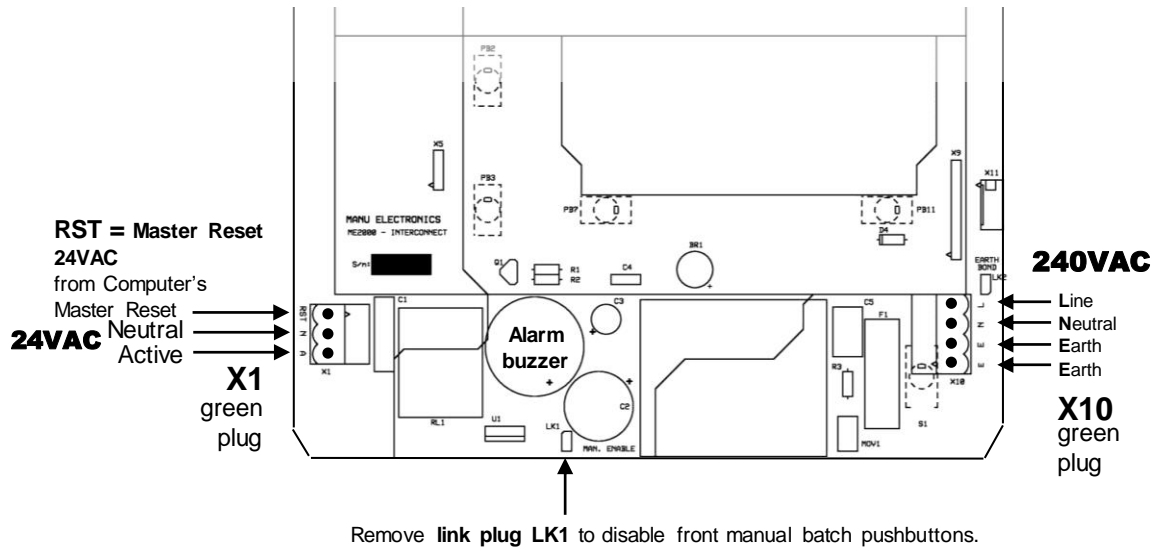

Figure 2. Motherboard Wiring Diagram
- Figure 2. Motherboard Wiring Diagram, on page 3
1. To reduce industrial noise, connect the computer's 240V supply (L is active load, N is neutral, E is earth) to the Motherboard (Figure 2, page 3) plug X10 (a 4-pin green-coloured plug),
6. **To disable the front manual batch pushbuttons**, remove link LK1 located on motherboard near the Alarm buzzer (see Figure 2 on page 3). This will avoid misuse of manual starts. The other manual functions "select", "mute" and "Reset" will be still fully functional. Plug-in LK1 to re-activate manual batch functions.